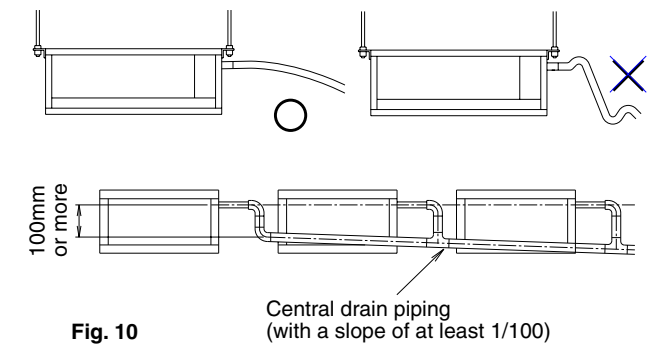

Fig. 10
**(1) Install the drain piping.**
- Keep the drain piping short and sloping downwards at a gradient of at least 1/100 to prevent air pockets from forming. (Refer to Fig. 10)
- Do not twist or bend the drain hose (2), so that excessive force is not applied to it. (This type of treatment may cause leaking.)
- If you are using central drain piping, follow the procedure outlined in the figure 10.
**(2) After piping work is finished, check drainage flows smoothly.**